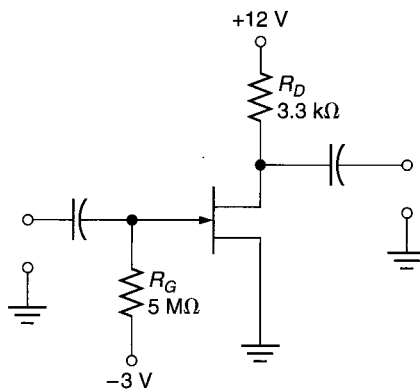

FIGURE 12.54
17. The 2N3437 (described in Problem 11) is used in the circuit shown in Figure 12.54. Determine the range of  $I_D$  values for the circuit. (*Hint*: See the margin note under *A Practical Consideration* on page 471 of the text.)